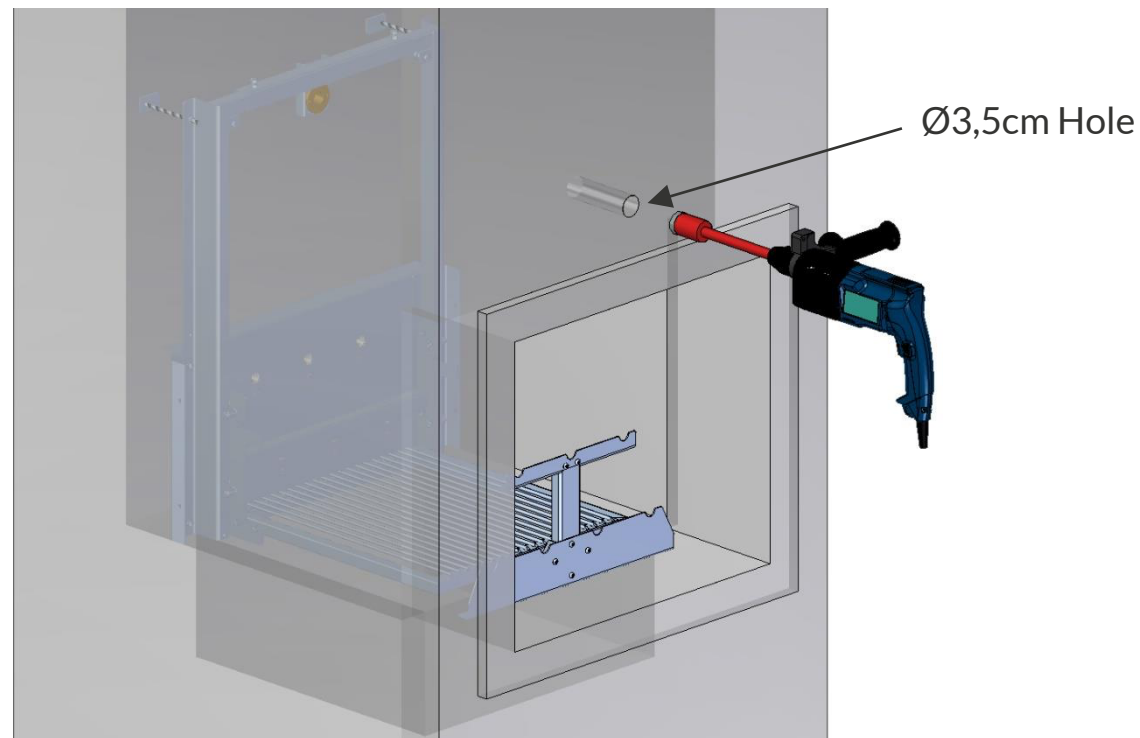

Figure 12
b) With the help of a professional impact drill (without using the hammer function) and a Ø3.5cm diamond concrete hole saw, drill the hole in the front wall above the grill's mouth (masonry) as shown in Figure 12 below. This process requires great care, gentle movements, and cooling of the hole saw with water or coolant to prolong its lifespan.